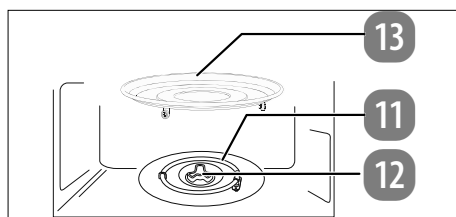

Fig. 5 – Inserting turntable plate
- ▶ Then place the turntable plate in the centre of the drive shaft (**see Fig. 5**) so that the bars of the turntable plate lie in the recesses on the drive shaft.